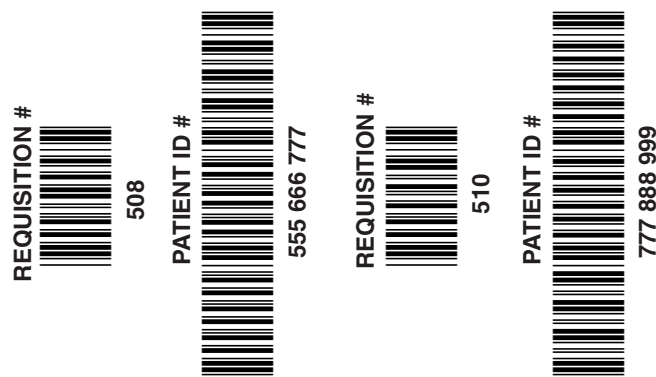

Figure 6-3 Bar Code Samples to Scan
- 3.) Use the hand-held bar code scanner to scan the PATIENT ID# bar code on one of the Bar code examples in Figure 6-3. Make sure the screen updates with the corresponding number, either 555 666 777 or 777 888 999.
- 5.) Use the hand held bar code scanner to scan the REQUISITION# bar code on one of the Bar code examples in Figure 6-3. Make sure the screen updates with the corresponding number, either 508 or 510.
Note: If you are using a foreign language (non-English) keyboard, you may see other numbers/characters displayed in the Patient ID# field when you scan the codes in Figure 6-3.